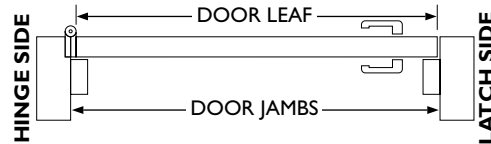

FIG.2
- STEP 1** Prepare door as shown. (FIG.2 & FIG.3) Use a Ø22mm or Ø7/8" router bit to machine mortices for escutcheon plates. (FIG.3)
- STEP 4** To allow for operating clearance, file cut end of the inner extrusion 1mm shorter on the latch side. Cut gasket and inner seal with a sharp utility knife. **CAUTION:** Do not withdraw inner extrusion further than outer housing since this may damage mechanism. (FIG.2)
- STEP 5** Drill mounting holes in housing flanges along vee grooves to suit screws supplied - Ø3.5mm. (FIG.2)
- STEP 6** Wind adjustment screw anti-clockwise until it stops. (FIG.2) **Note:** Do not overtighten as this may damage components and void warranty.
- STEP 11** Open the door and turn adjustment screw clockwise one turn. (FIG.2)